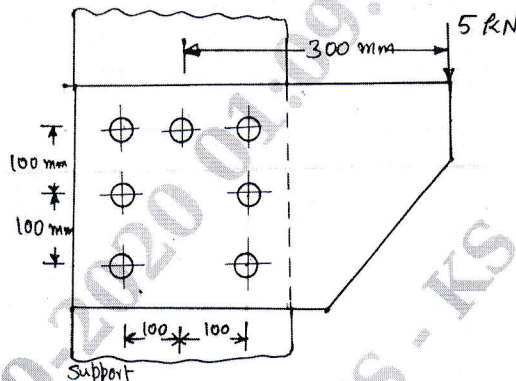

Fig.Q4(b)
- b. A bracket is bolted to a vertical support by seven bolts of equal size as shown in Fig.Q4(b). Determine the size of the bolt, if the allowable shear stress in the bolt material is 40 MPa.